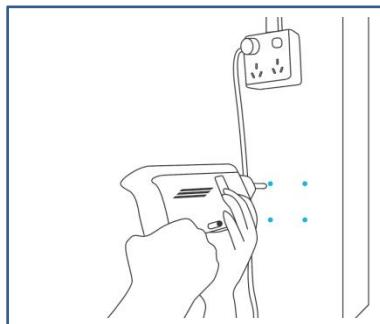

Fig.4.
- 4、Drill four holes into the marked locations. Make sure your mounting area is structurally sound and free from obstruction.See the(Fig.4.)